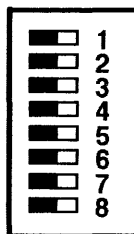

Figure 36. 4045 Standard Switch Configuration
15. Check that the 4045 configuration switches are set to the standard configuration. (Figure 36).